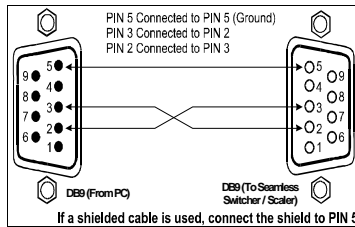

Figure 2: Connecting the PC
- Connect the RS-232 DB9 port on your PC to the RS-232 DB9 rear panel port on the **VP-724DS** unit, forming a cross-connection³, as Figure 2 illustrates